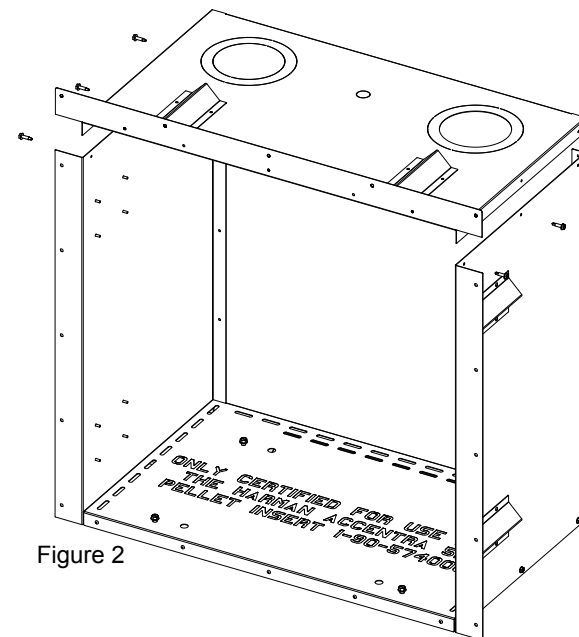

Figure 2
- The top panel can now be put into place, with the bend going out over the side panels. Align the holes and secure with (6) Tek screws. Figure 2.